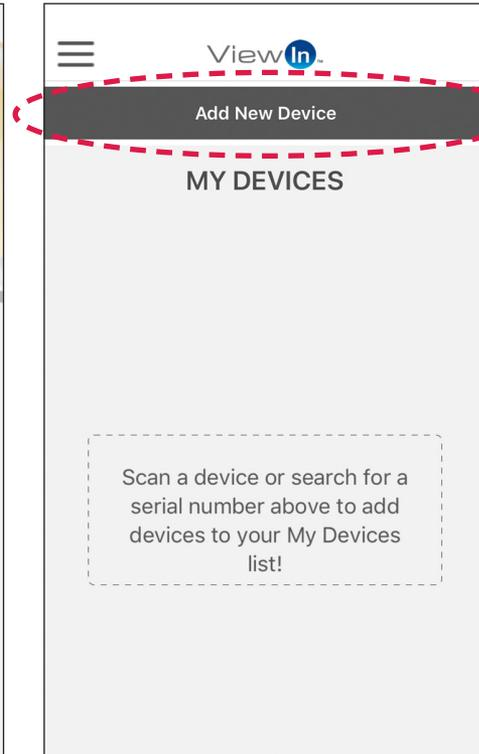

Figure 13
3. From the My Devices page, press **Add New Device** (Figure 13).